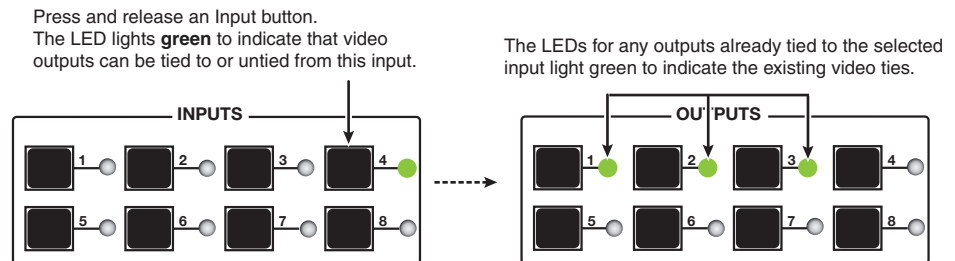

Figure 12. Selecting an Input with Ties (Video)
- **If only video is selected**, its LED lights green to indicate that video outputs can be tied to or untied from this input. Output button LEDs for any outputs already tied to the selected input light green also (see figure 12).